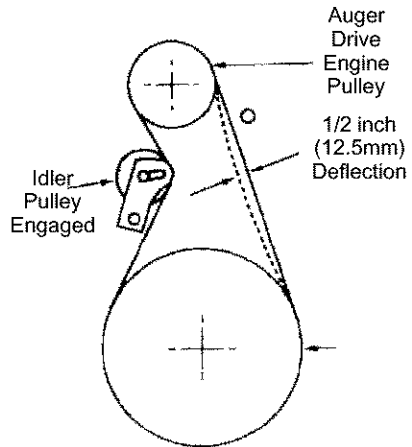

Figure 38
5. Have someone engage auger drive clutch. Check tension on belt (opposite idler pulley). Belt should deflect about 1/2 inch (12.5 mm) with moderate pressure (Figure 38). You may have to move idler pulley more than once to obtain the correct tension.